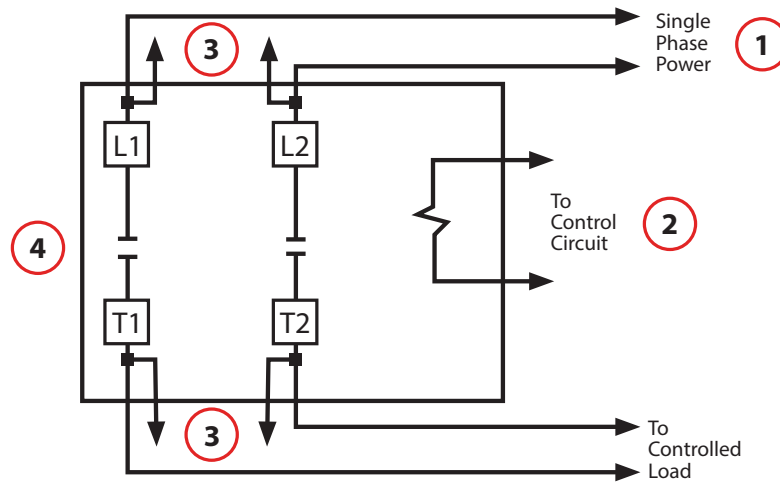

Fig. 1 Typical Wiring Diagram
- Refer to the wiring instructions provided by the equipment manufacturer or consult Fig. 1 (see page 2).